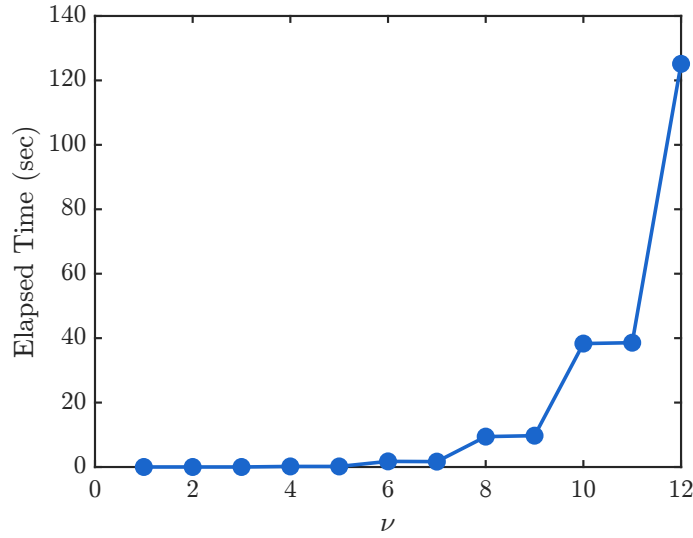

Figure 1: Computation Time for Enumeration-Based Optimal Control
- I varied ν from 2 to 12. The corresponding elapsed times and costs are summarized in Table 1 and visually presented in Figure 1. As ν increases, the computational time grows significantly.